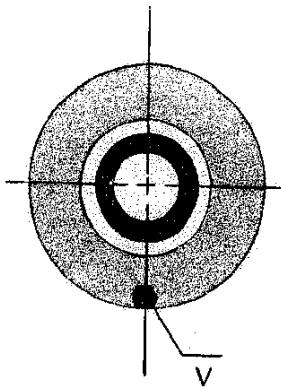

Fig 4
2. Let the wheel swings to find out the center of gravity and then mark with a [✓], (Fig 4)